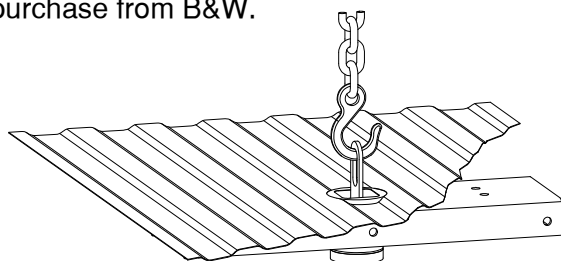

Figure A1
- 4. Prepare a lifting device (optional).** The purpose of the device is to safely hold the hitch in position during part of the installation, see Figure A1 for an example. A simple mechanical lifting device is available for purchase from B&W.